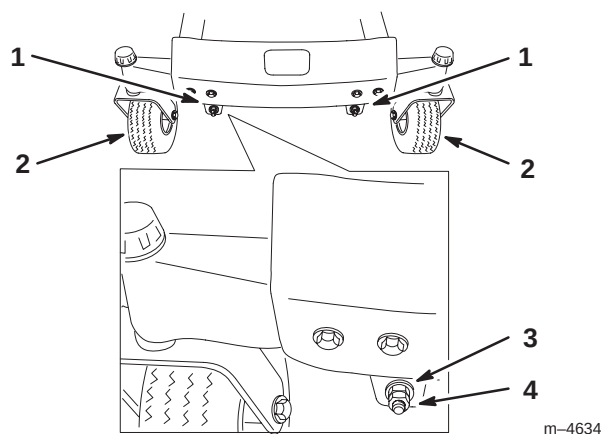

Figure 44
10. To adjust the front-to-rear blade slope, remove the locknuts and then rotate the adjustment nuts in the front of the mower (Fig. 44).
12. After adjusting both adjustment nuts evenly, check the front-to-rear slope again. Continue adjusting the nuts until the front blade tip is 1/16–5/16 inch (1.6–7.9 mm) lower than the rear blade tip (Fig. 44).
Note: After adjusting the adjustment nuts, make sure there is **no slack** in either support rod (Fig. 46). Tighten either one to remove the slack (Fig. 44).